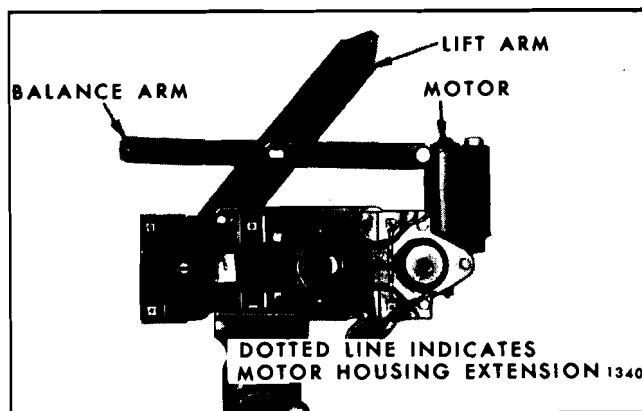

Fig. 6-36—Door Window Regulator and Electric Motor Assembly
1. Remove front door window electric regulator and clamp assembly in a vise (Fig. 6-36).
IMPORTANT: DO NOT drill into the motor housing, part of which is indicated by the dotted line illustrated in Figure 6-36. In addition, locate hole sufficient distance from edge of sector gear to insure proper retention of sector gear to back plate.
4. Remove regulator motor attaching bolts and remove motor from regulator assembly (Fig. 6-36).